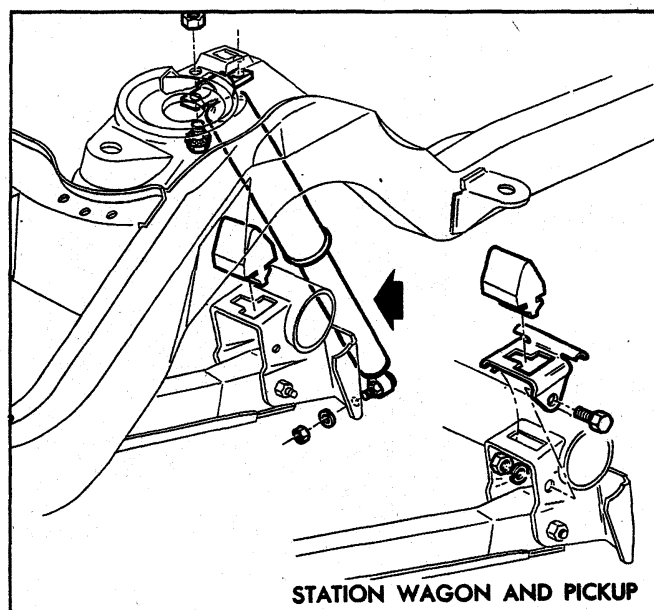

Fig. 26—Shock Absorber Mounting—Exploded View (Chevelle)
3. Disconnect shock absorber at upper mounting bracket by removing the two retaining bolts. Refer to Figure 26 for shock absorber mounting details. (Chevelle components shown as typical.)